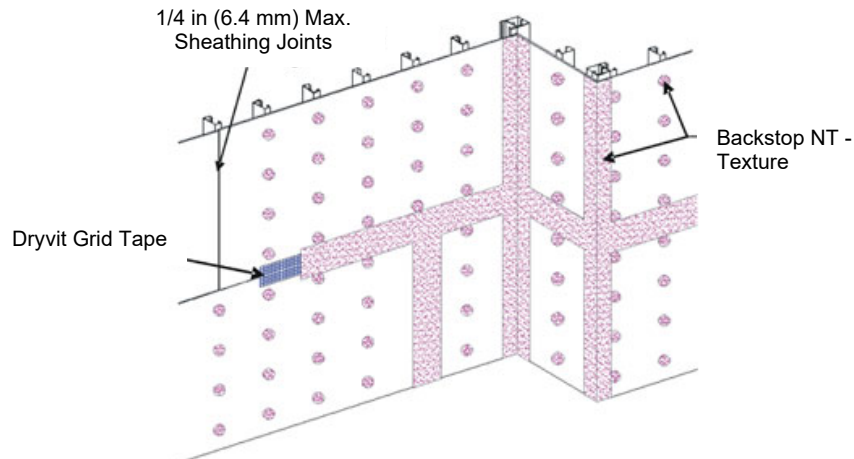

Figure 16
- a. Apply Dryvit Grid Tape as described in Section VI.A.1 above. Mix the Backstop NT - Texture material as described in Section III.B.2. Using a stainless steel trowel or spatula, apply a layer of Backstop NT - Texture over the Dryvit Grid Tape and spot all fastener heads – Figure 16.